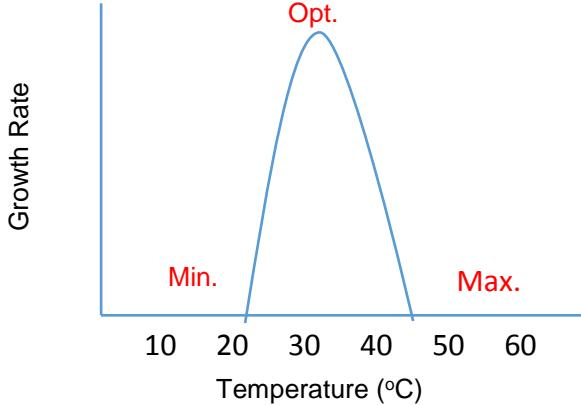

Figure 1.
6. Refer back to Figure 1., the graph of a mesophilic bacterium. Utilize the graph paper to draw the curves of each temperature category. Compare your results to the graph and label your organisms to the category they most closely match.